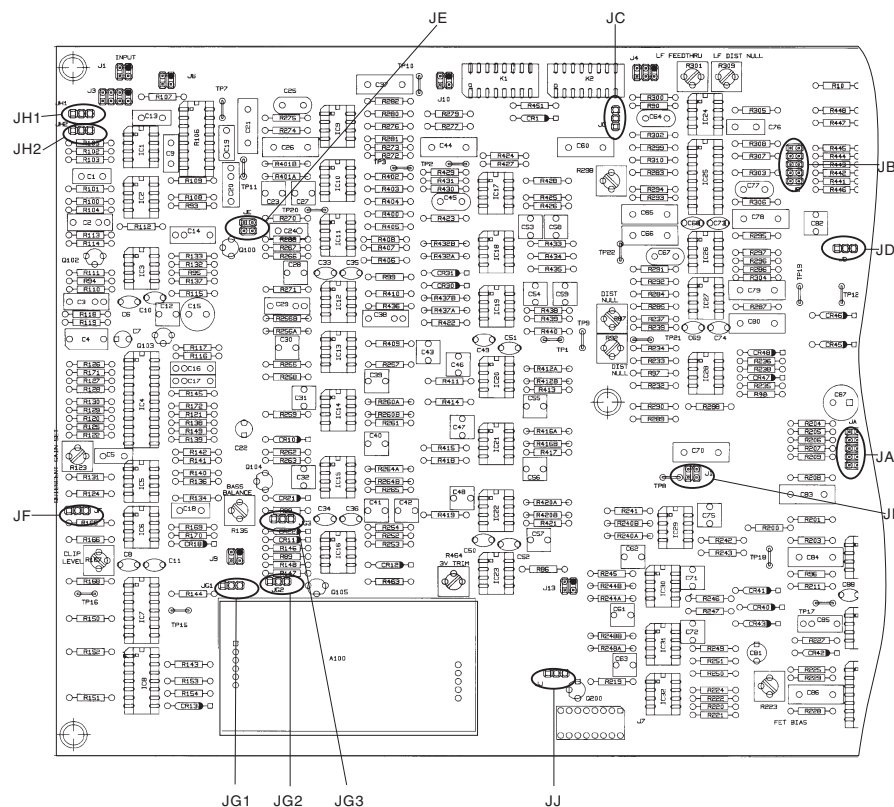

Fig. 2-6: 4000 Jumper Locations
- B) Refer to Fig. 2-6 for jumper locations.